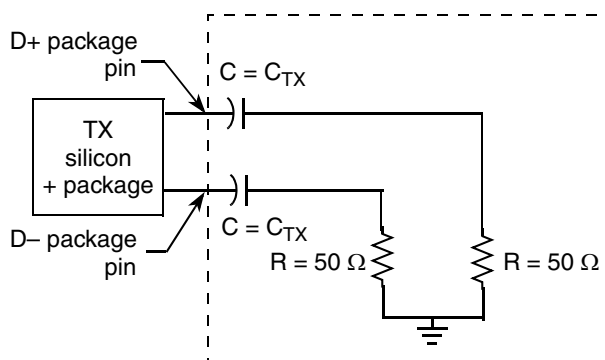

Figure 42. Test/Measurement Load
2. Specified at the measurement point into a timing and voltage test load as shown in Figure 42 and measured over any 250 consecutive Tx UIs.
2. Specified at the measurement point and measured over any 250 consecutive UIs. The test load in Figure 42 must be used as the Rx device when taking measurements. If the clocks to the Rx and Tx are not derived from the same reference clock, the Tx UI recovered from 3500 consecutive UI must be used as a reference for the eye diagram.